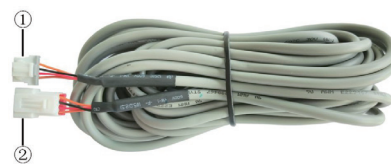

Fig. 4.6.4: Schematic diagram of connection wire: Connect terminal ① with wired controller CN1; connect terminal ② with the terminal ④ of patch cord
Only use the connection wire (Fig. 4.6.4) in the packing box of wired controller. Connect the terminal ② to the terminal ④ of patch cord which has been installed on the air conditioner; insert terminal ① to needle stand CN1 of wired controller. If there's protection terminal ③, pull out the protection terminal at first and then install it.